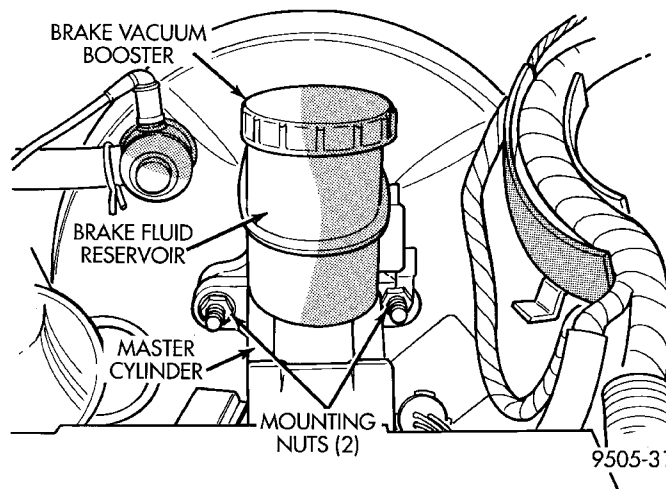

Fig. 14 Master Cylinder Mounting
(5) Remove the 2 nuts (Fig. 14) attaching master cylinder to power brake booster unit.
(15) Install the 2 master cylinder to power brake unit mounting nuts (Fig. 14) and torque to 28 N·m (250 in. lbs.) torque.